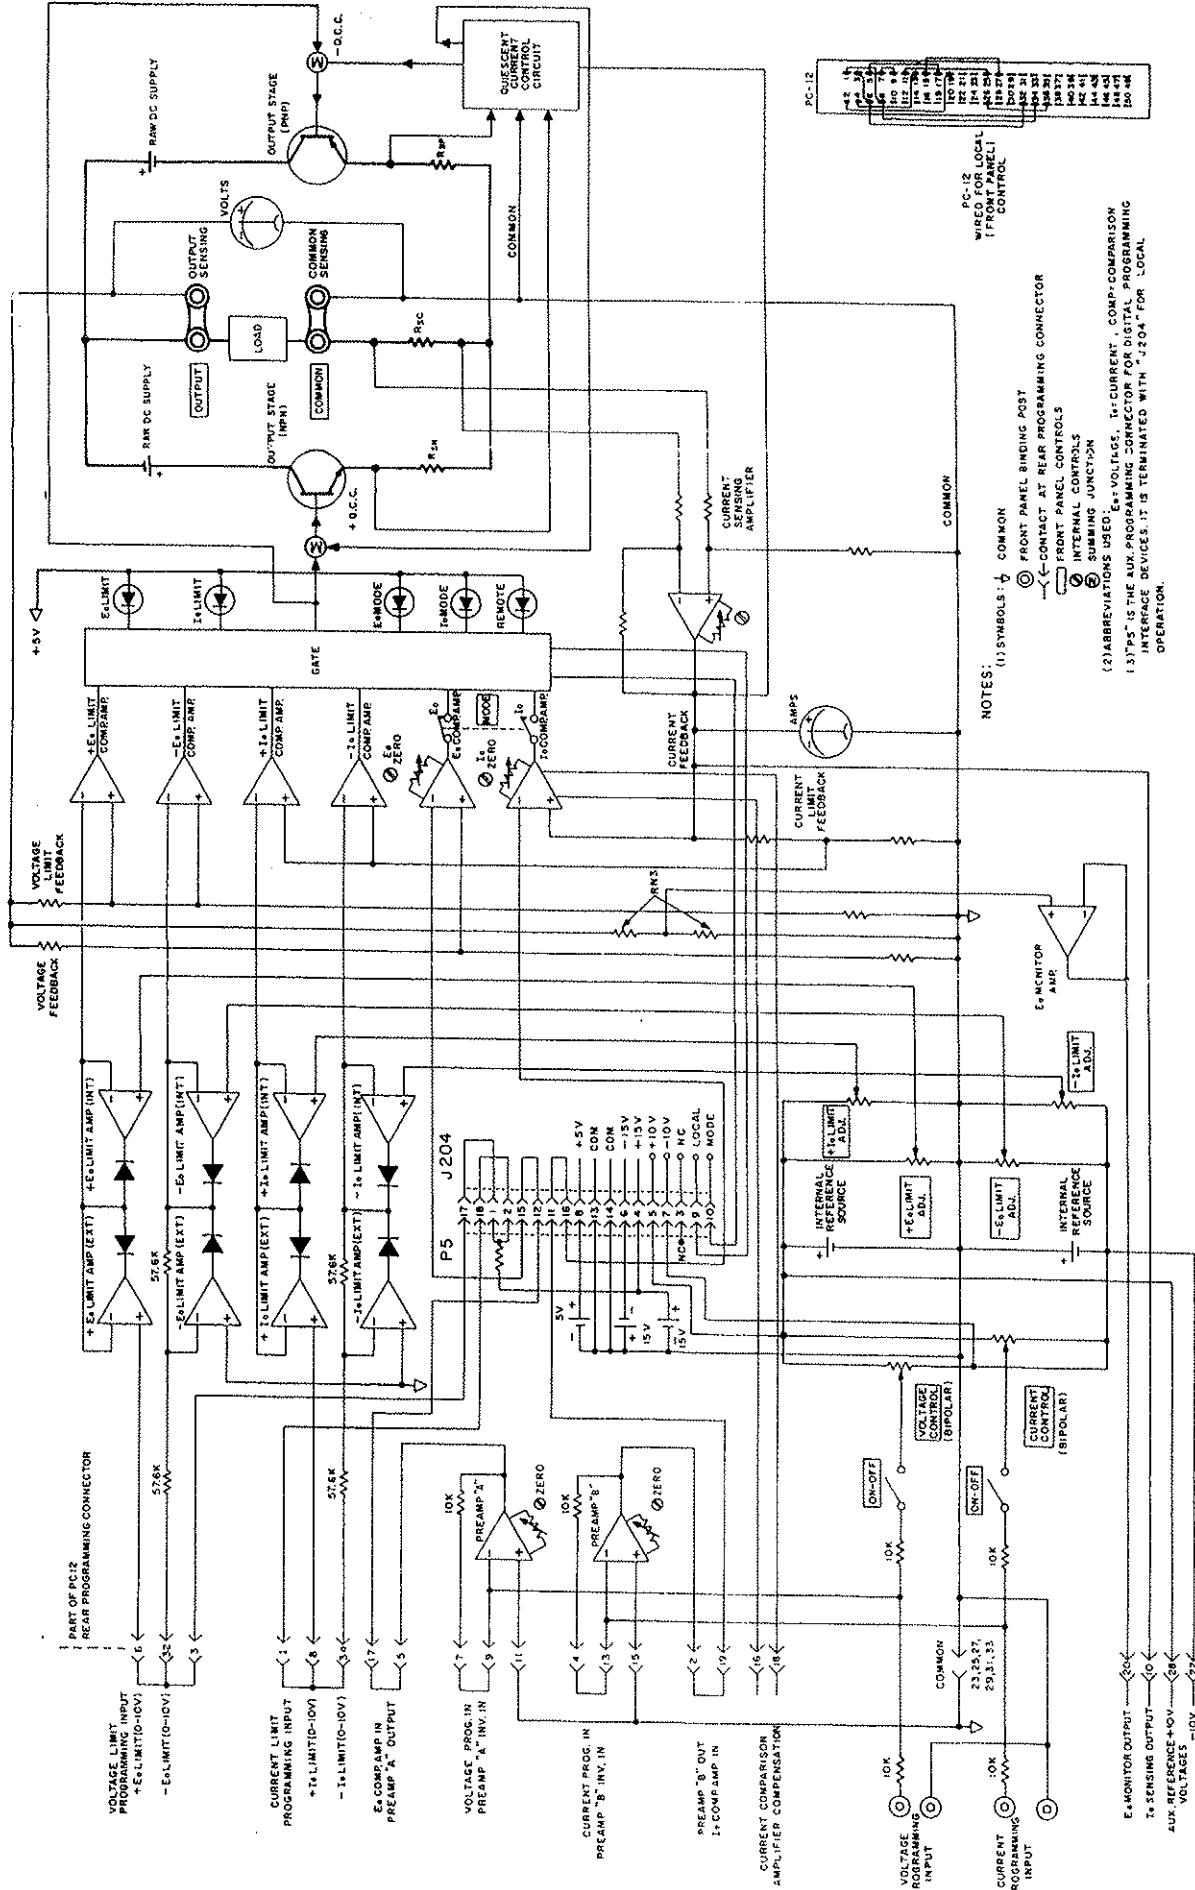

FIG. 4-5 SIMPLIFIED SCHEMATIC DIAGRAM, BOP SERIES.
4-3 SIMPLIFIED DIAGRAM ANALYSIS (REFER TO FIG. 4-5)
4-5 BIPOLAR OUTPUT STAGE. The bipolar power output stage consists of two groups of PNP/NPN power transistors (only one PNP and one NPN transistor is shown in FIG. 4-5. The actual number of PNP and NPN power transistors depends on the BOP model), two RAW D-C SUPPLIES, the QUIESCENT CURRENT CONTROL CIRCUIT and the three current sensing resistors (R_{SP} , R_{SC} , R_{SN})⁽¹⁾.
- 4-11 ± 10 V REFERENCE SUPPLY. The BOP dual d-c (± 10 V) bias and reference voltage (shown as batteries on the Simplified Schematic Diagram, FIG. 4-5) are precision calibrated sources, derived from the stabilized amplifier power supply. The (\pm) 10 volt sources are available for external use on the REAR PROGRAMMING CONNECTOR with reference to COMMON. For internal biasing, they are connected to two 10-turn potentiometers (BIPOLEAR control for VOLTAGE and CURRENT at the front panel). Connected via the "ON-OFF" switch to their respective control channel, the zero to (\pm) 10 volt d-c bias can control the BOP output voltage or current throughout its specified d-c output range.
- 4-12 VOLTAGE AND CURRENT LIMIT CIRCUITS. As seen from FIG. 4-5, the circuits for limiting the BOP output voltage and current are identical, except that the feedback for the voltage limit is taken from the (\pm) OUTPUT terminal, while the current limit feedback originates from the voltage drop across the current sensing resistor (R_{sc}). Both feedback signals are applied to the (+) input of their respective comparison amplifiers and dimensioned such that a zero to (\pm) 10 volt d-c signal to the (-) input of the comparison amplifier will control the voltage, as well as the current limit range. The control signal for internal control is derived from the (\pm) 10 volt reference sources and repeated by the $\pm E_o$ LIMIT AMPS or $\pm I_o$ LIMIT AMPS respectively. The control signals and therefore the $\pm E_o$ and $\pm I_o$ limits are front panel adjustable. The control signal is applied directly to the (\pm) E_o and (\pm) I_o LIMIT COMP AMPS. The $\pm I_o$ and $\pm E_o$ control resistors are multi-turn controls, accessible from the BOP front panel, allowing manual adjustment of all limits ($\pm E_o$, $\pm I_o$) over the BOP output range. The limits can also be controlled externally, by means of a 0 to (+) 10 volt, 1 mA d-c signal. For simultaneous control of the (\pm) E_o or (\pm) I_o limit, the control voltage source is connected to the REAR PROGRAMMING CONNECTOR as shown in Section III, FIG. 3-24. For individual control of the (+) E_o or I_o and the (-) E_o or I_o limit, two control voltages (0 to (+) 10V @ 1 mA) are required. They are connected as previously shown in Section III, FIG. 3-25.
STEP NO. 2: Restore ALL jumper links on the rear barrier-strip and on the REAR PROGRAMMING CONNECTOR PC-12 to those for Standard Power Supply operation (see Section IV, FIG. 4-5).
- 2) PC-12, wired for local (front panel) control must be connected (see Sect. IV, FIG. 4-5).
Notes: 1) PC-12, wired for local (front panel) control (see Sect. IV, FIG. 4-5).